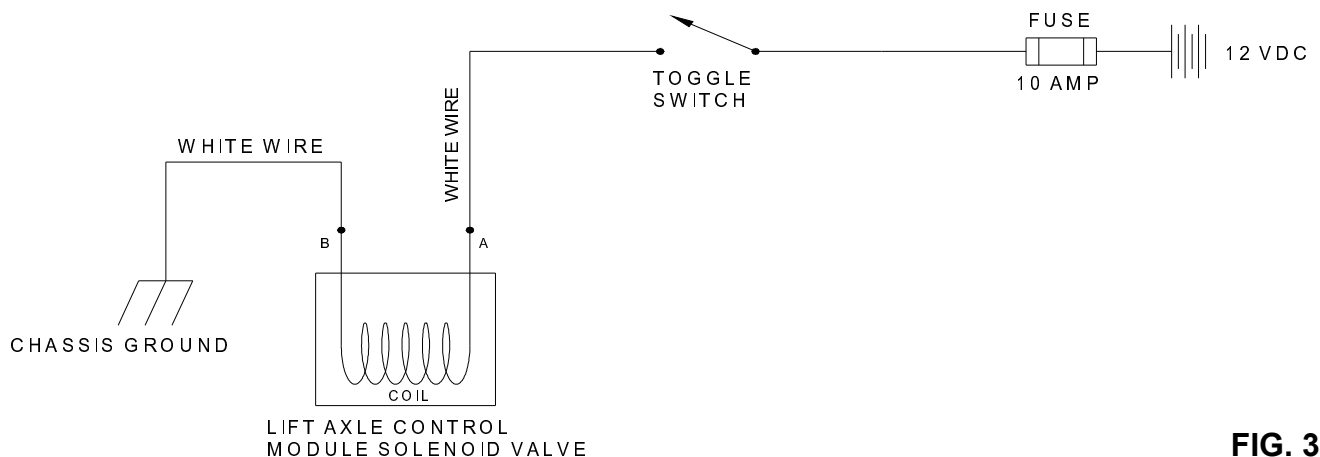

FIG. 3
- A. Make all wiring connections to fuse, truck, and toggle switch as shown in Figure 3. **IMPORTANT:** Make sure that the toggle switch is wired so that the lift axle is down when the switch is on.